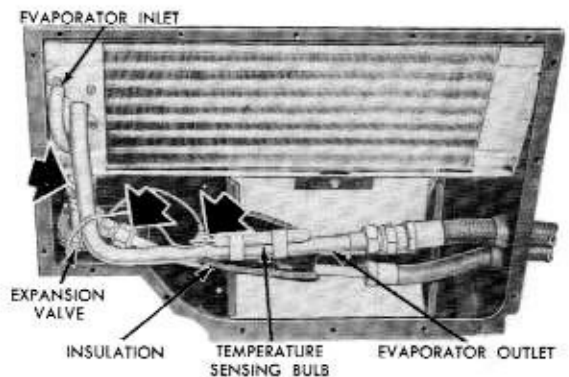

Fig. 5-12—Expansion Valve Connections—Ranger and Pacer—1958—(E-2637)
4. Disconnect the expansion valve at the three fittings indicated by the large arrows in figure 5-12. When disconnecting the valve from the evaporator inlet lines, hold the valve stationary while turning the flare nut.
5. Position the replacement expansion valve and connect the three fittings indicated by the large arrows in figure 5-12.